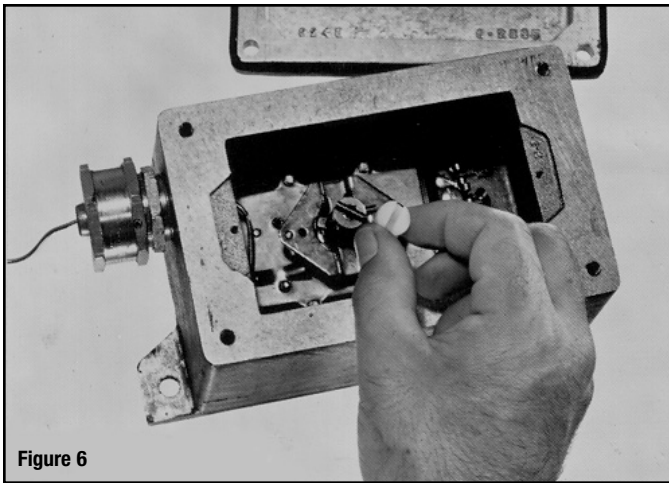

Figure 6
4. Remove white shaft coupler for safe-keeping while making wiring connections (see Figure 6).